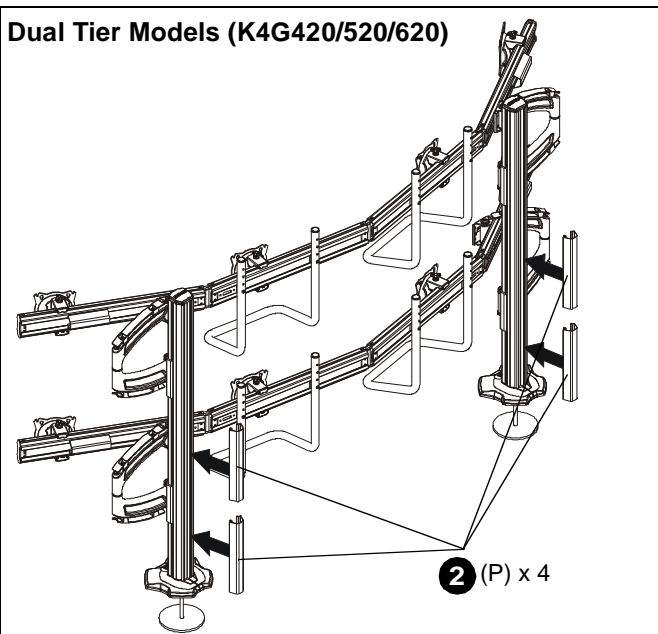

Figure 22
2. Install two 4 1/2" cable covers (Q) to single tier column arms (F) or four 9 1/2" cable covers (P) to dual tier column arms (G). (See Figure 21) or (See Figure 22)